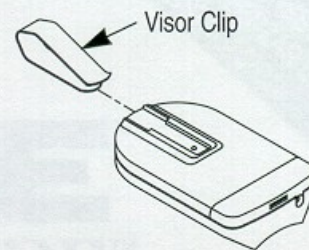

Figure 7-1
- Step 1** • **TURN** Remote Control upside down. (Figure 7-1)
- Step 2** • **ATTACH** Visor Clip to Remote Control. (Figure 7-1)